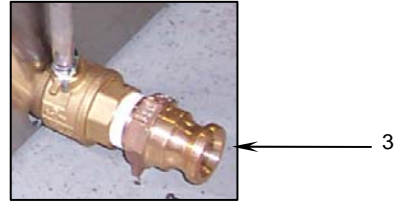

Figure 14. Sink Drain Hose Assembly Installation.
- Open each of the drain hose assembly couplers (**Figure 14, Item 1**) on the drain hose assembly (**Figure 14, Item 2**).
- Insert the drain hose assembly couplers (**Figure 14, Item 1**) over the sink drain adapters (**Figure 14, Item 3**).
- Close each drain hose assembly coupler (**Figure 14, Item 1**).